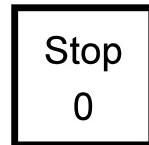

Figure 31. STOP Button
- Press the **STOP** button (Figure 31) on the controller. The engine will go to idle mode.
- Press the **STOP** button twice (Figure 31) on the controller to shut down the engine.